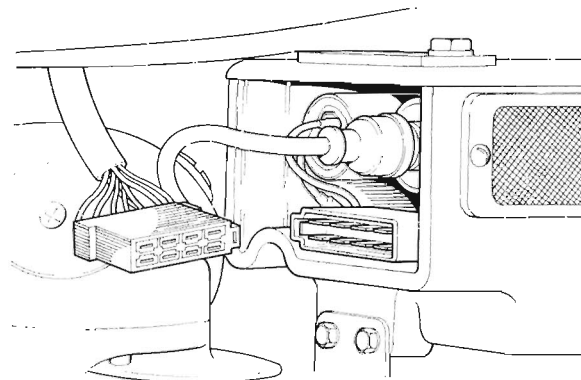

Fig. D10. Master electrical junction.
- (1) Remove the petrol tank. See section D15.
- (2) Disconnect all external connections protruding from the box. Disconnect the oil pressure switch at the crankcase. Disconnect the H.T. lead at the coil and remove the front harness junction plug (see Fig. D10). Disconnect the horn. It will be easier to remove the electrical box with the horn and bracket still attached than to remove the box alone.
- (3) Remove the three retaining nuts attaching the electrical box to the frame and withdraw it away from the machine.
- (4) Remove the four bolts securing the lid of the electrical box and raise the lid from the open end towards the rear. At this point disconnect the zener diode (the large lucar connection on the underside of the lid).
- (5) Disconnect the coil and then remove the two pozidrive screws retaining the coil securing clip and remove the coil from the box.
- (6) Disconnect the capacitor and flasher unit contained in the large rubber moulding. Remove the two screws securing the moulding to the box and remove. As the moulding comes away disconnect the ignition capacitor from underneath.
- (7) Disconnect the ignition switch and remove from the box.
- (8) Disconnect the rectifier and detach it from the casing by removing the retaining nut from the outside wall of the box.
- (9) Remove the two remaining screws securing the junction box and remove.
Remove the petrol tank (see Section D15). Disconnect the front harness at the electrical box (see fig. D10). Pull harness through the forks clear of the machine. Remove any clips securing the harness to the frame.